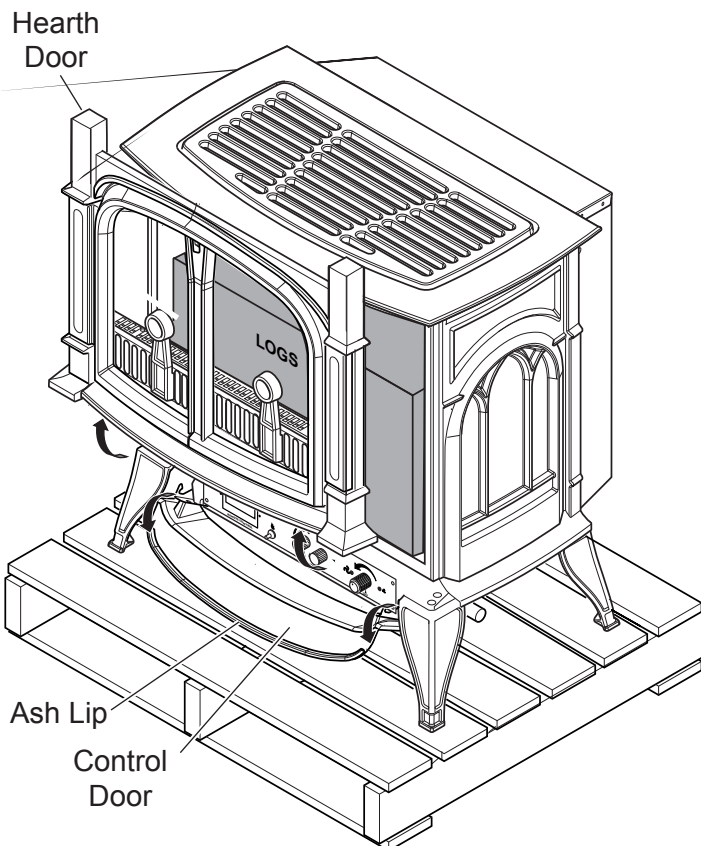

Figure 7 - Opening Control Door and Removing Hearth Door
2. Open plastic bag and slide to bottom of unit. See Figure 7.